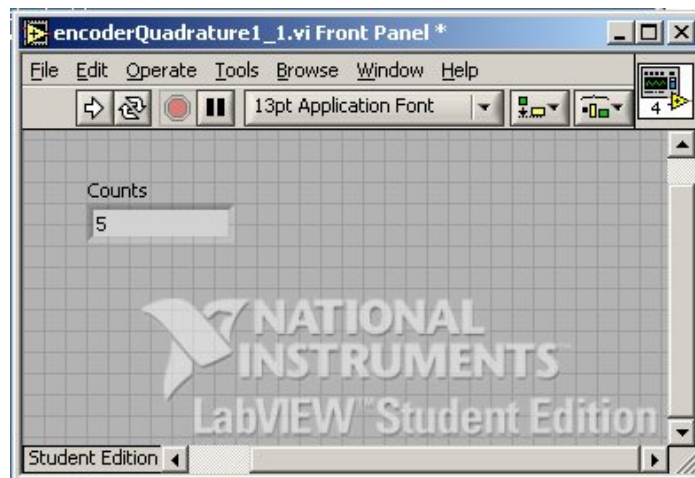

Figure 1: Front panel to display real-time optical encoder counts
Step 1: Launch LabVIEW to create the following (very simple) front panel (Figure 1). **NB:** the text box should fit 8 digits